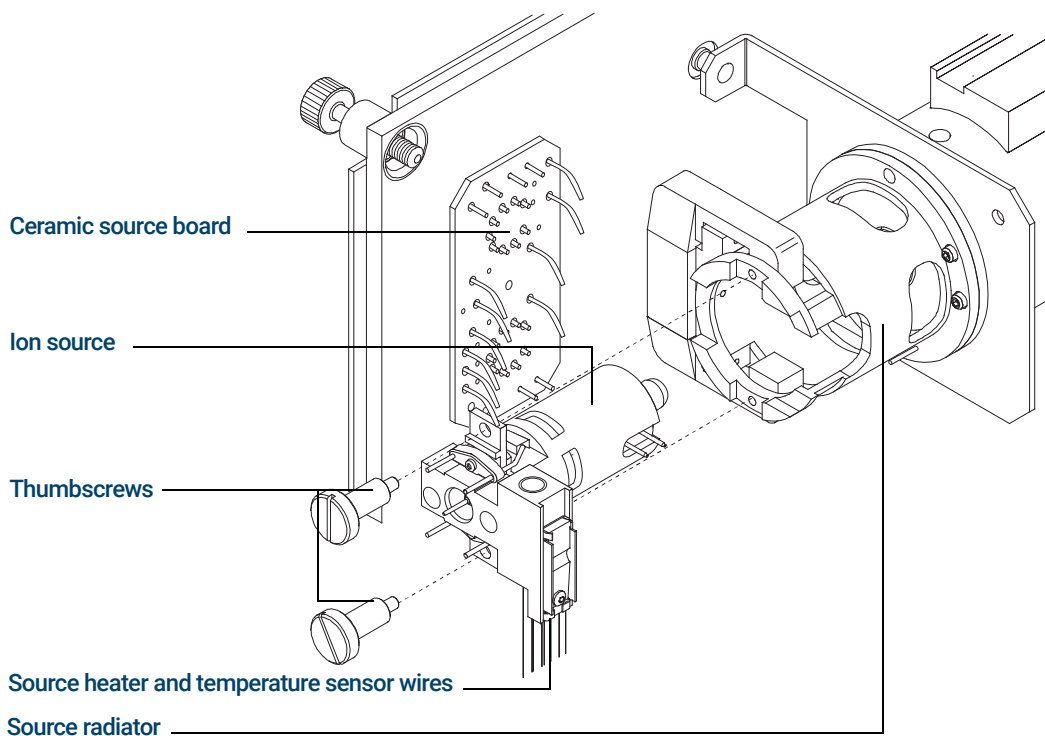

Figure 48. Removing the EI XTR or HydroInert source
- 4 Remove the thumbscrews that hold the ion source in place. (See Figure 48.)